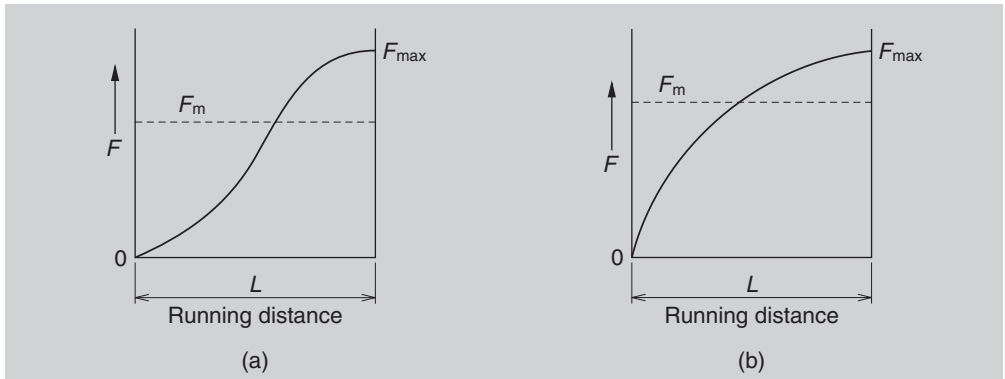

Fig. 2.5 Load that changes in sinusoidal pattern
③ When load changes in sinusoidal pattern (Fig. 2.5)